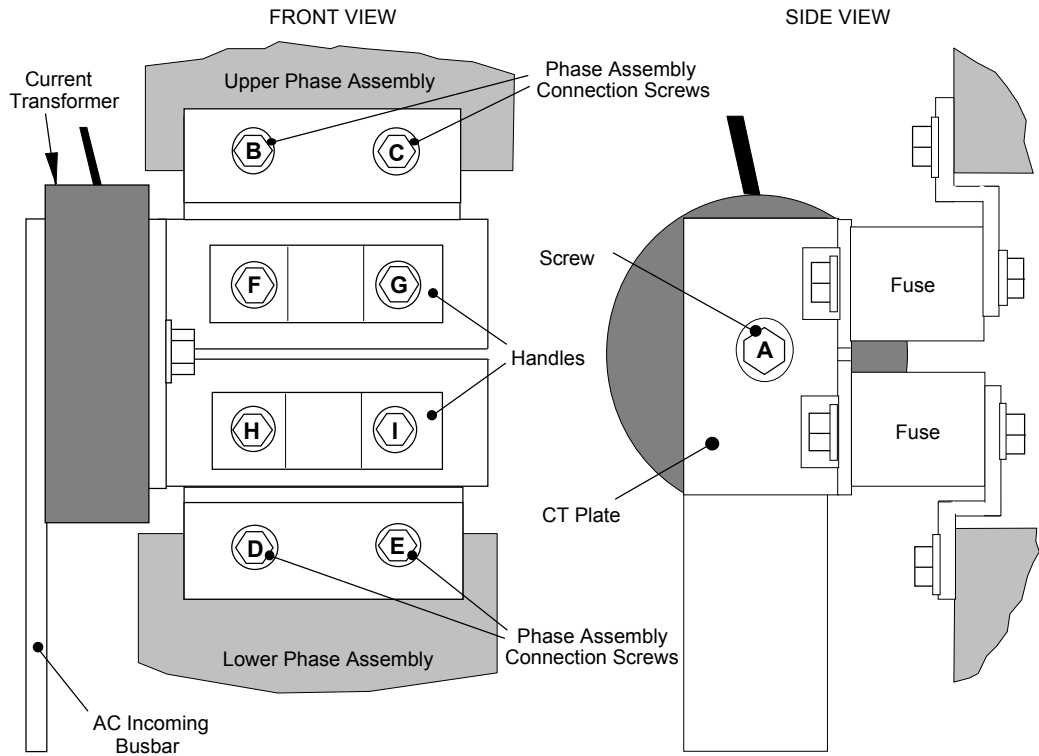
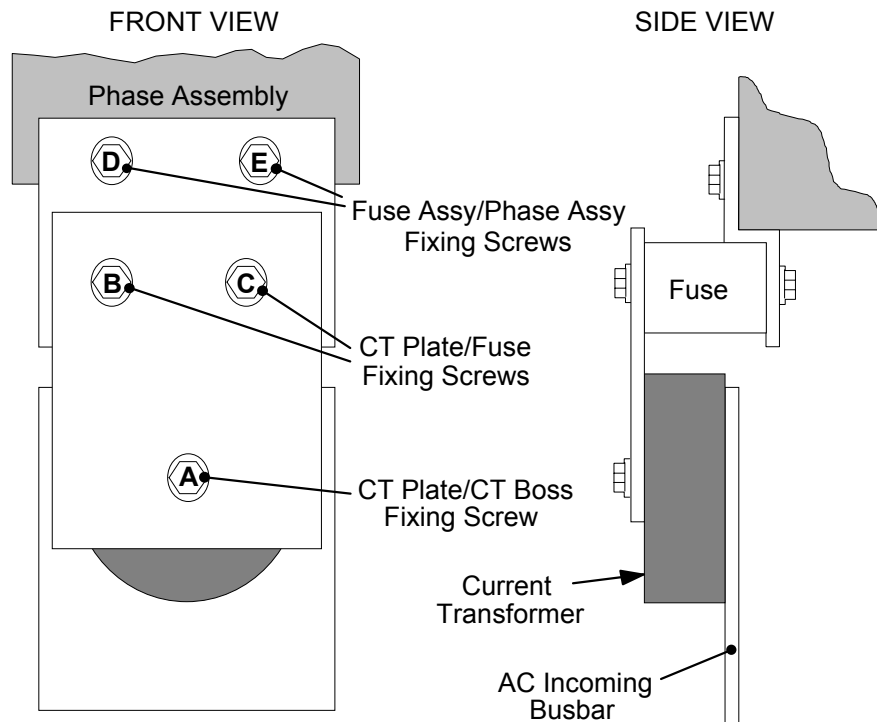

Figure 8-1 590+ Frame H Fuse Replacement Diagram
Figure 8-2 591+ Frame H Fuse Replacement Diagram
1. Referring to Figure 8-1 (590H) or Figure 8-2 (591H), remove the M12 screw (A). Undo the four screws (B, C, D, E) which allows the CT plate and fuse assembly to be removed.